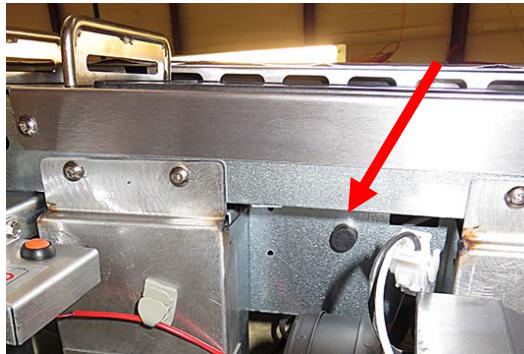

Figure 1
1. Disconnect the fryer from the electrical power supply. The fuse located under the bottom of the control box, can be removed, to remove power from individual control boxes (see Figure 1). Turn the fuse cap to remove.